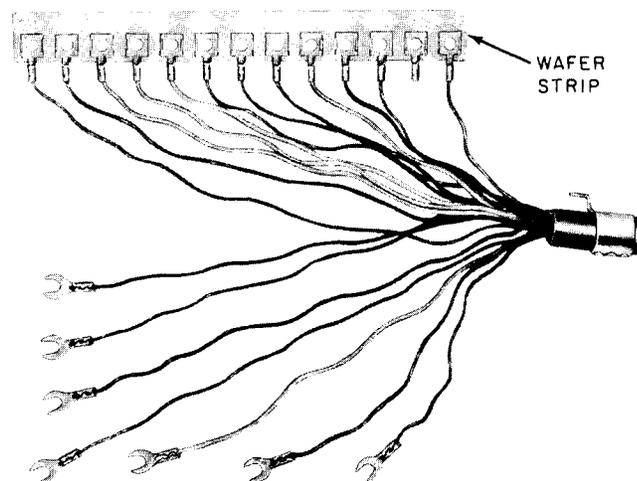

Fig. 1—Nonslotted Wafer Strip End of Mounting Cord, Early Type
2.08 Replace mounting cords of early manufacture (Fig. 1) as follows: